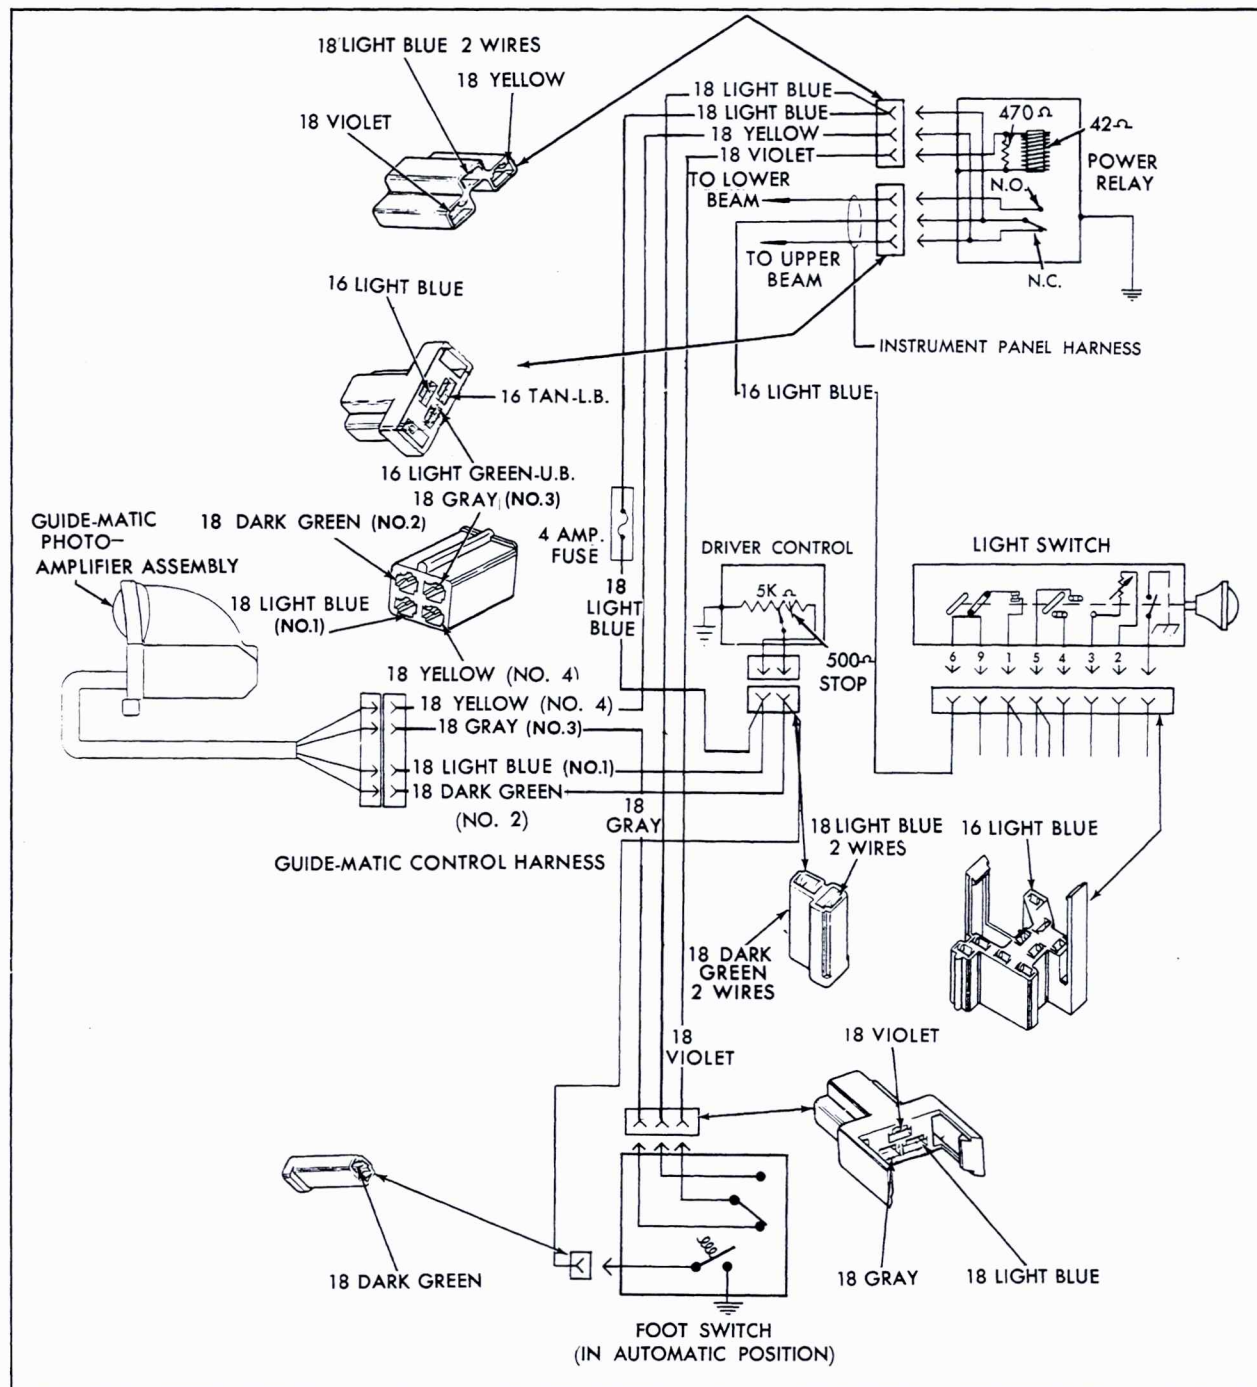
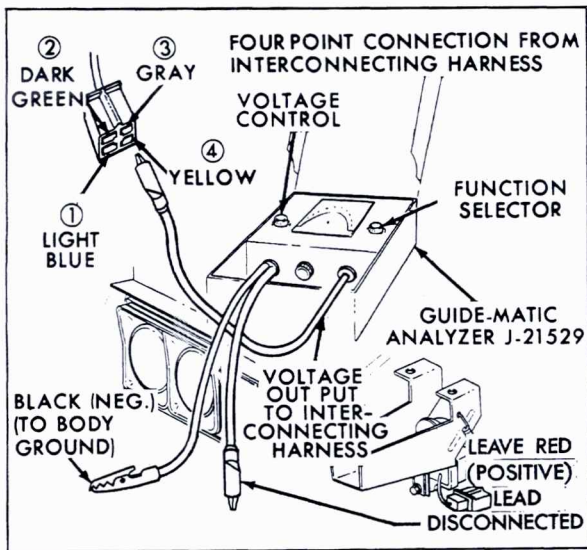

Fig. 15-35 Guide-Matic Circuit Diagram
Fig. 15-36 Circuit Check Out From Connector
The car electrical circuit for Guide-Matic installation is shown in Fig. 15-35.
b. Disconnect single dark green wire connector at foot switch, Fig. 15-35. If low beam cannot be obtained in both positions of foot switch, connect single dark green wire at foot switch and proceed to step 5c. If low beam can now be obtained in both positions of foot switch, override section of foot switch is shorted. Replace foot switch and proceed to step 6.
c. Disconnect photo-amplifier from nearby four-way multiple connector in interconnecting cable. Connect Guide-Matic Analyzer, J-21529, as shown in Fig. 15-36. Function selector switch is in position No. 1. Red positive +13 volt in lead must be disconnected while black negative lead is connected to body ground. Touch voltage output lead to terminal 1 in multiple connector (18 light blue). Analyzer voltmeter should read full scale. If so, proceed to step 5d. If not, see Fig. 15-35 and check for blown four amp fuse (near driver control connector), or loose connectors at power relay. Perform necessary corrections and make normal system connections. Check as described in steps 1-4. If system still does not operate properly, proceed to step 5d.
d. Leave analyzer connected as shown in Fig. 15-36. Red positive +13 volt DC in lead must be disconnected. Connect voltage output lead to terminal 2 (18 dark green) in multiple connector.
Rotating driver control ring should vary meter voltage reading from 0 volts to approximately 3/4 scale. If so, proceed to step 5e. If not, see Fig. 15-35 and check for loose connection at driver control two-way connector or defective driver control. Perform necessary corrections and make normal system connections. Check as described in steps 1-4. If system still does not operate properly, proceed to step 5e.
e. Connect analyzer as shown in Fig. 15-36. Red positive +13 volt DC in lead must be disconnected. Headlights must be on high beam to perform check. If on low beam, depress foot switch fully and release to bring them on high beam. Now touch voltage output lead to terminal 4 (18 yellow) in multiple connector. Analyzer voltmeter should read full scale. If so, proceed to step 5f. If not, see Fig. 15-35 and check for loose connections at power relay. Perform necessary corrections and make normal system connections. Check as described in steps 1-4. If system still does not operate properly, proceed to step 5f.
f. Connect analyzer + and -13 volt DC in-leads Fig. 15-36. Connect voltage output lead to terminal 3 (18 gray). With function selector switch in position #1, rotate voltage control knob fully clockwise. If headlights are on low beam in both positions of foot switch, replace defective photo-amplifier. If not, proceed to step 5g.
8. Leave foot switch in automatic position. See step 6a if in doubt of position. With headlights on low beam, rotate driver control ring pointer counterclockwise to "off" position. Headlights should switch to high beam. If so, proceed to step 9. If not, see Fig. 15-35 and check driver control for defective connection to ground.
f. If this minimum dim and hold sensitivity can be obtained at any position of the driver control ring, the unit is acceptable for sensitivity and you may proceed to step g. If Dim (switching to low beam) sensitivity cannot be adjusted (step b), replace defective photo-amplifier. If dim and hold sensitivity readings are close together on the analyzer voltmeter (less than one volt) see Fig. 15-35 and check for open 18 yellow wire between power relay and 4-way connector near photo-amplifier. Follow procedure outlined under 5e of Preliminary Checks. If all right, replace photo-amplifier.